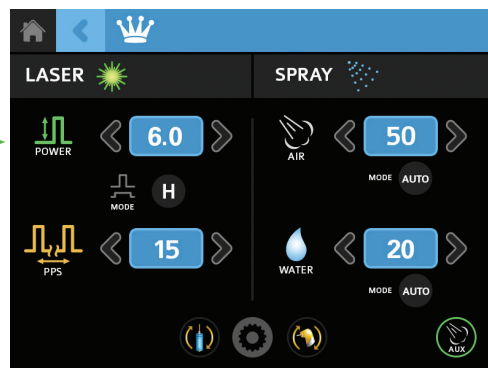

Figure 7G
G. Default settings for Fractional will automatically appear on the screen. Place the system in READY mode to activate the Fractional air flow and begin lasing. (Figure 7G)